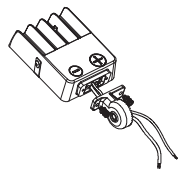

figure 1.1
- Step 2: Match the hole of rubber mat with bracket, pass wire through and fix it with screws(Watch out not to scratch the wire);(figure 1.1)